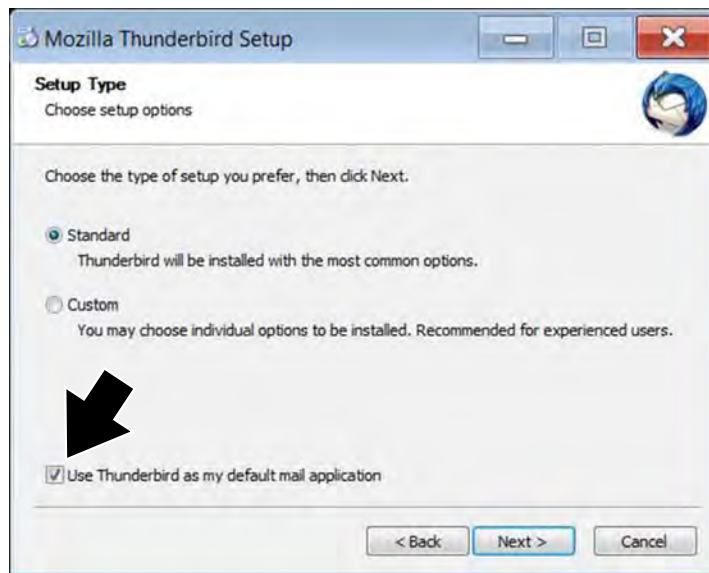

Figure 11-11
3. Continue through the setup. If available choose “set as my default mail application” (Figure 11-11).